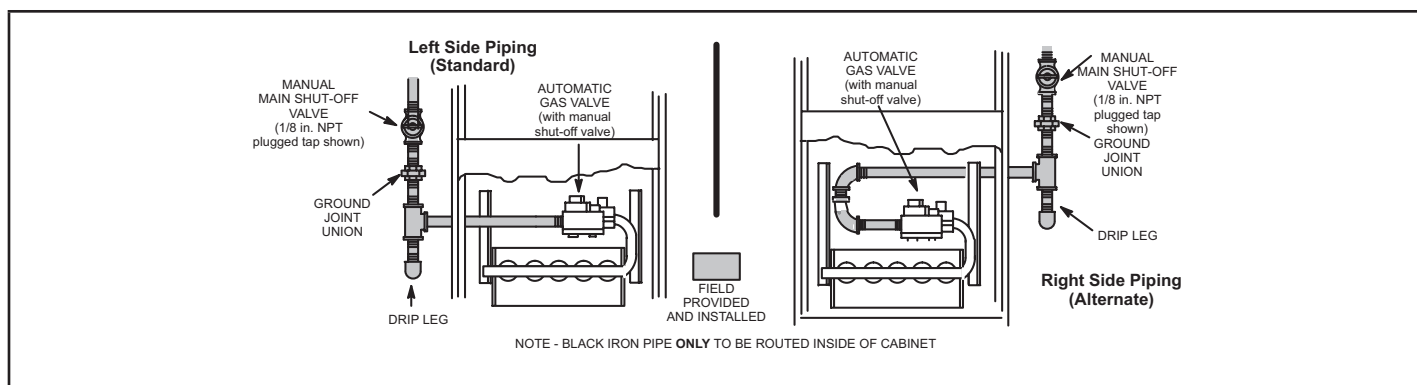

FIGURE 45
- 1 - Gas piping may be routed into the unit through either the left or right-hand side. Supply piping enters into the gas valve from the side of the valve as shown in FIGURE 45. Connect the gas supply piping into the gas valve. The maximum torque is 800 in lbs and minimum torque is 350 in lbs when attaching the gas piping to the gas valve.
- 3 - Gas piping must not run in or through air ducts, clothes chutes, chimneys or gas vents, dumb waiters or elevator shafts. Center gas line through piping hole. Gas line should not touch side of unit. See FIGURE 45.